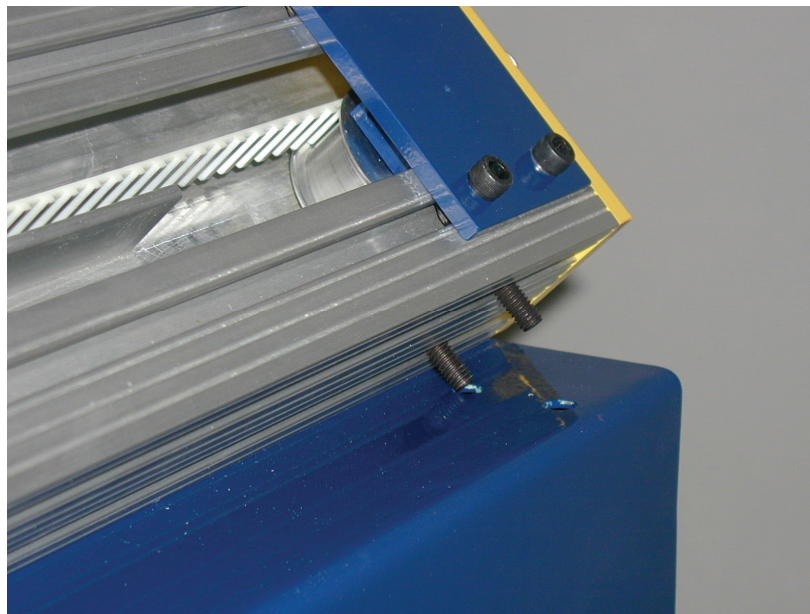

Figure 1.3 Align Bolts to table holes
2. Slide the bolts to the appropriate position on the table. See figure 1.3.